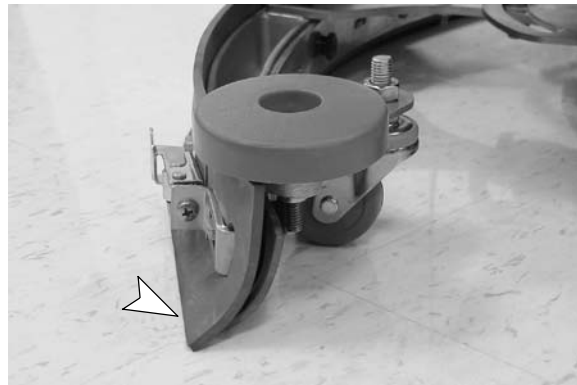

FIG. 48
3. During machine operation, with the casters properly adjusted, the squeegee blades should deflect as shown (Figure 48).